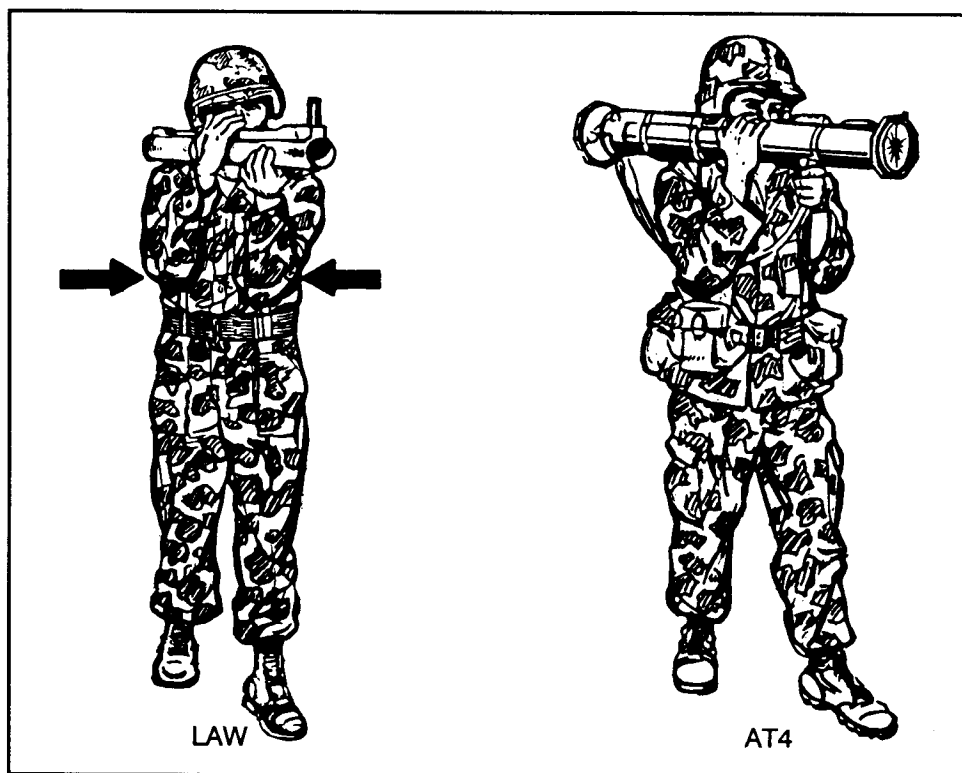

Figure 5-1. Basic standing positions.
a. **Basic Standing Position.** Raise the launcher slightly higher than shoulder level. Execute a left face, rotate your shoulder under the launcher, and spread your feet a comfortable distance apart. Move your left foot 15 to 24 inches forward, keeping your hips level and your weight balanced on both feet. To obtain a firm, stable position, tuck both elbows tightly into your body. To track a moving target, turn your body at the waist—not with your legs. This enables you to track the target smoothly. Unless you are behind a protective barrier such as a wall, the standing position exposes you more than any other position to enemy observation and possible suppression. Differences between weapons with respect to the standing position are as follows (Figure 5-1, page 5-2):